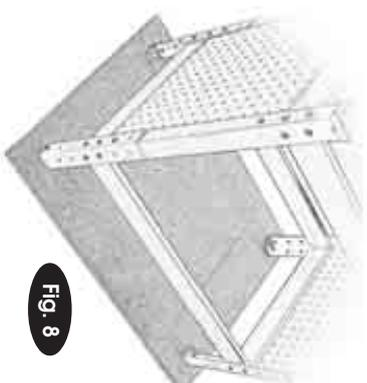

Fig. 8
- Turn the assembled frame upside down and lay on bench top (Fig. 8), line up the pilot holes with the elongated ones and secure in position with screws supplied, DO NOT overtighten.